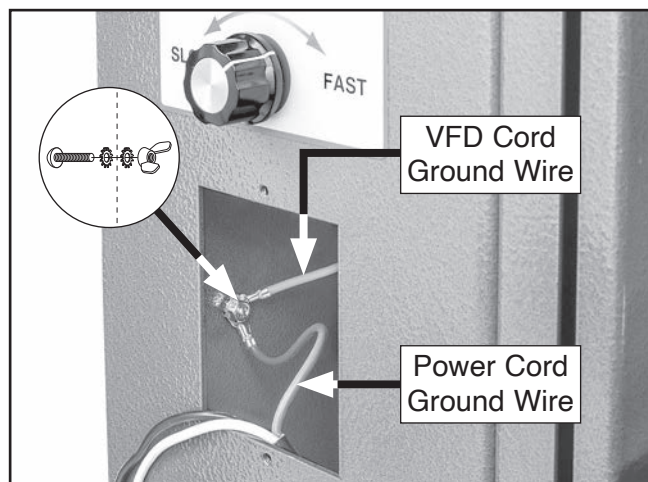

Figure 11. Example of VFD cord and power cord ground wires attached to chassis ground.
11. Clean and dry interior and exterior surface of chassis ground hole, then attach green motor cord and power cord ground wires to chassis ground hole with (1) M5-.8 X 10 button head cap screw, (2) 5mm external tooth washers, and (1) M5-.8 wing nut included with kit (see **Figure 11**).